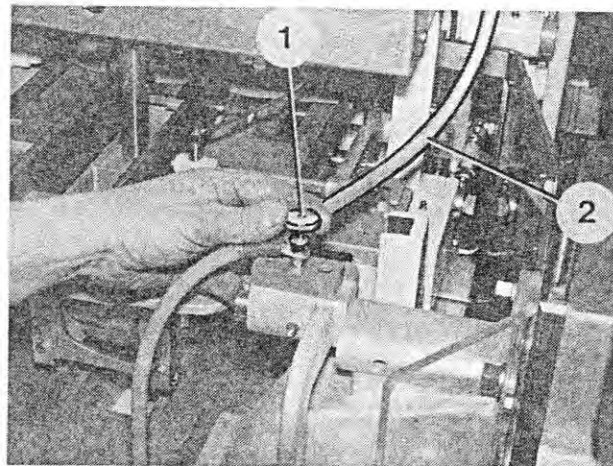

Fig. 214
16. When machine with a heated wire cutter are used, unscrew the knurled nut (Figure 214/1). Remove the washer and disconnect the electric line (Figure 214/2). Reinstall the washer and the knurled nut.